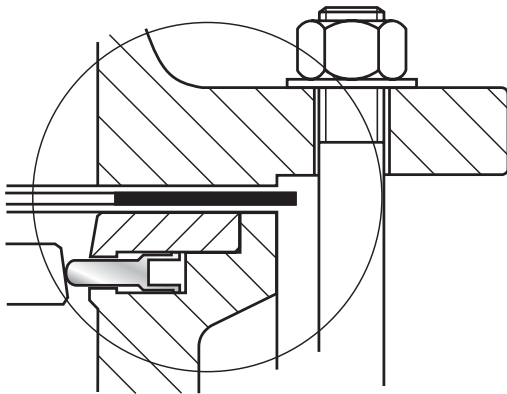

Fig.5-6 Flanges and gaskets
5. Make sure that the butterfly valve and the gaskets are correctly centered and that correct quality is used. By a good shut-off function the pressure of the counterflange is transmitted through the gasket to the cover plate (→ Fig.5-6).